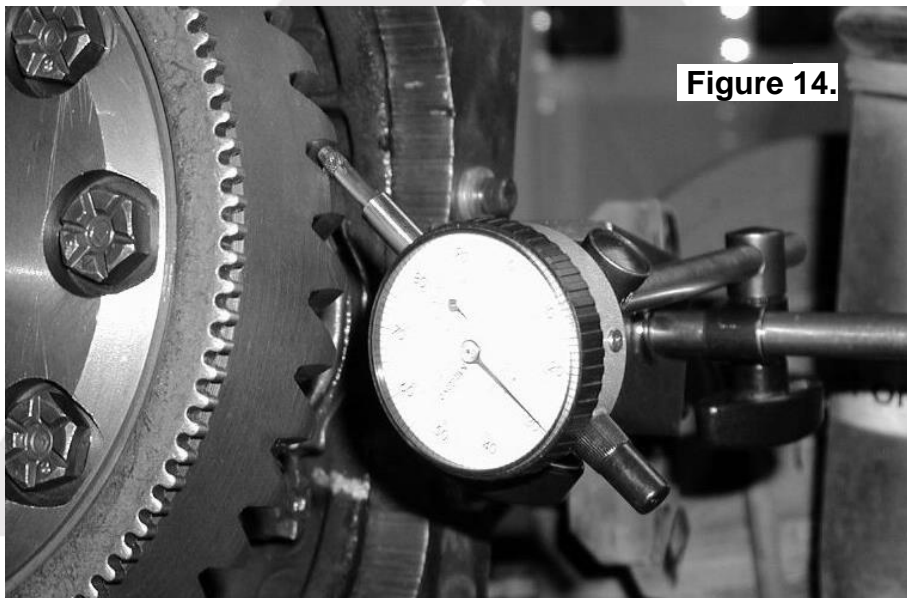

Figure 14.
- Set a plunge type dial indicator on one of the ring gear teeth as in Figure 14.